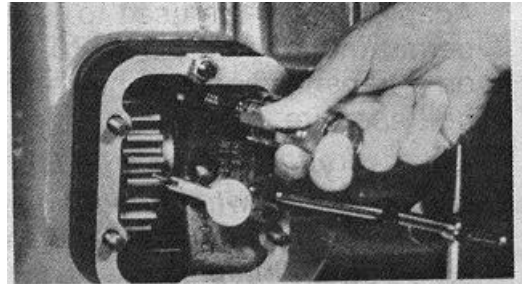

Fig. 14
1. Use same procedure for mounting the adapter and checking backlash as was used when mounting the P.T.O. to transmission. (See Fig.14.)